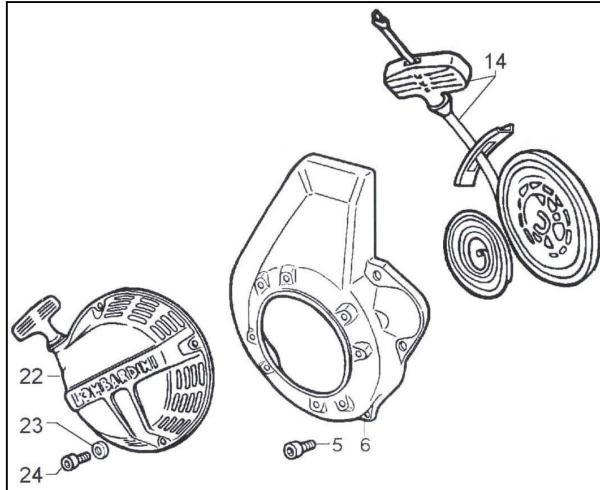

Figure 40
8.7.8 Pull Rope (figure 40, #14)
1. Remove the four cover screws and lock washers (figure 40, #23 & #24).
2. Remove and discard remainder of worn pull rope (figure 40, #14) and spring (figure 40, #25). **The pull rope and spring come together in an assembly. Do not try and fix a broken pull rope, order the entire assembly instead.**
3. Replace pull rope (figure 40, #14) and spring (figure 40, #25).